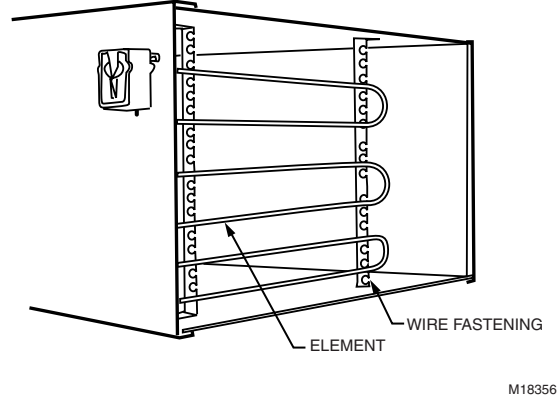

Fig. 10. Sensor element mounted in duct using perforated strap iron support.
3. Run the sensing element into the duct. See Fig. 10.